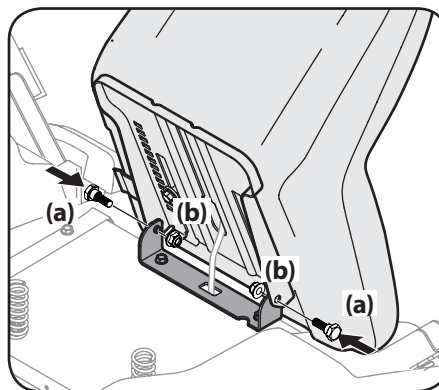

Figure 2-3
3. Rotate the seat into position and secure the seat into place with the previously removed shoulder screws (a) and lock nuts (b). Be careful not to crimp or damage the wire harness while installing the seat. See Figure 2-3.